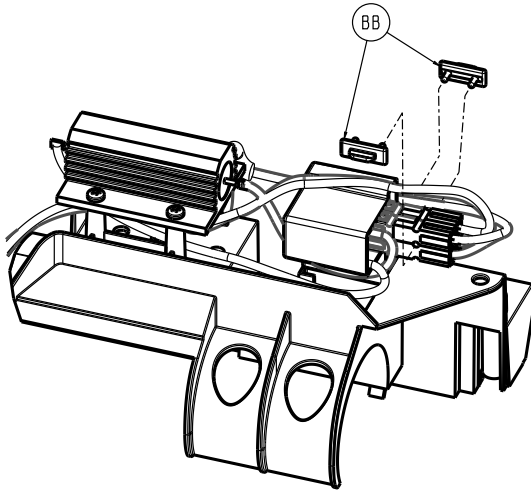

Figure 26 –
2. Remove and save the two retention clips (BB) (Figure 26).